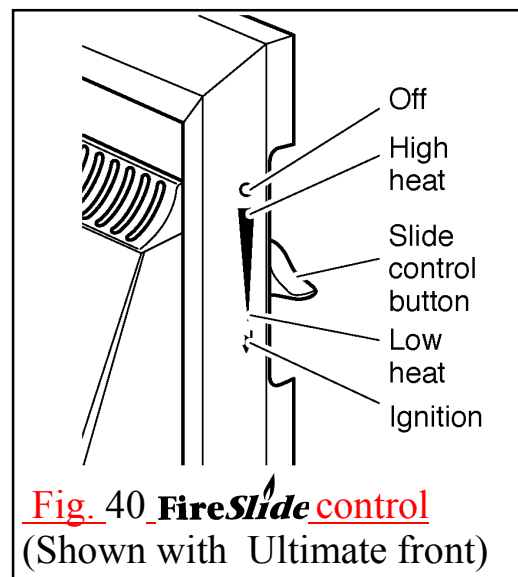

Fig. 40 FireSlide control
The control position markings on the front surround are shown in figure 40.
5. Gradually slide the button up to increase the burner setting. The burner should be at its maximum setting at the high heat position shown in figure 40. You should feel a check to the button movement at this position.